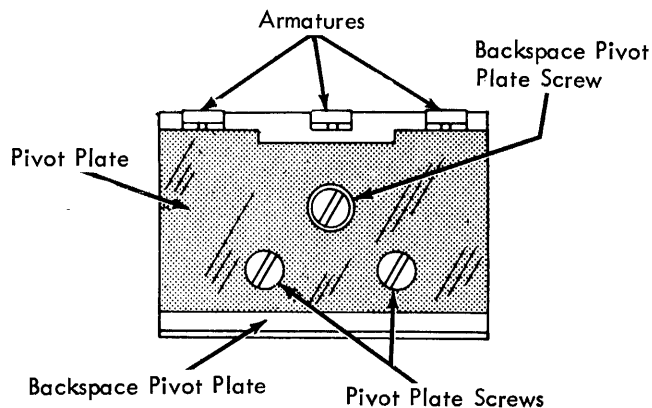

FIGURE 166. B/S Pivot Plate Location
1. Tab, Backspace, and Index Magnets (Fig. 166 & 167) -